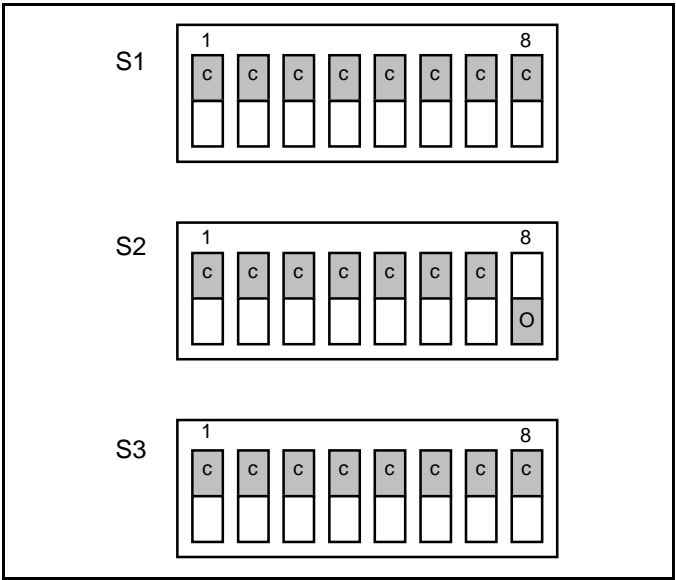

Figure 12 - Test Mode, Repeat
2. Record the position of the GETC dip switches and then reset the switches to the positions shown in Figure 12. Reset the GETC.